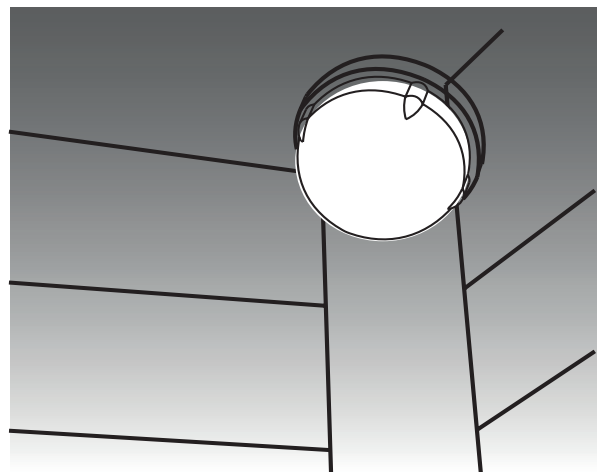
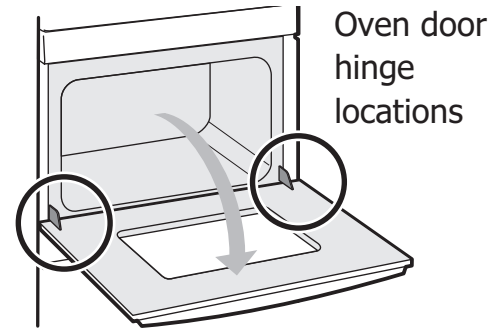

Figure 13: Wall oven Halogen light
Figure 14: Door hinge location
1. Open oven door completely, horizontal with floor (Figure 13).
2. Pull up the lock located on each hinge support toward front of the oven until the lock stops. You may have to apply a little upward pressure on the lock to pull it up (Figure 13 and Figure 14).
3. Fully open the oven door, horizontal with floor (Figure 13).
4. Push the door hinge locks up toward and into the oven frame on both left and right oven door hinges to the locked position (Figure 14).